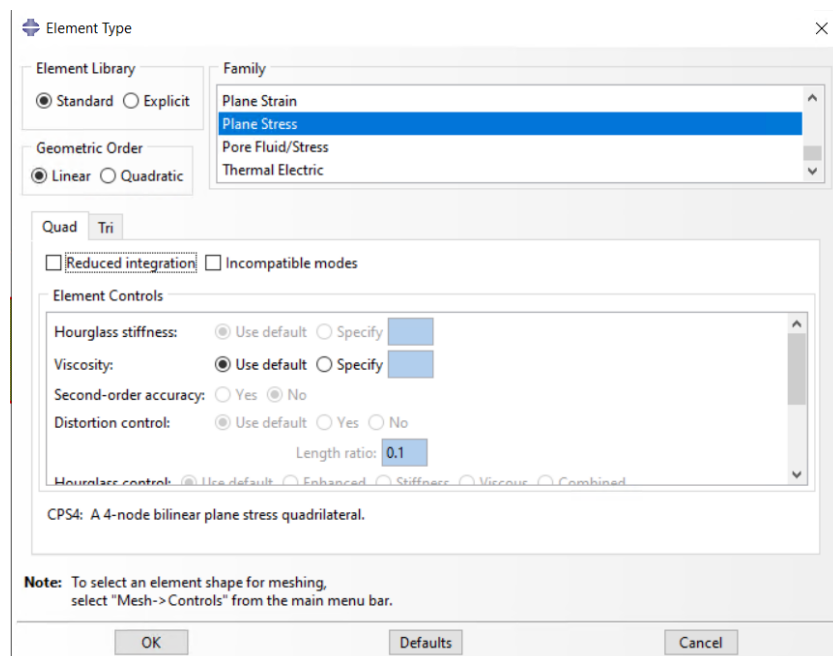

Figure 2-23 – The Element Type dialog box.
2. In the **Element Type** dialog box, as shown in Figure 2-23. Accept the following default selections that control the elements that are available for selection: